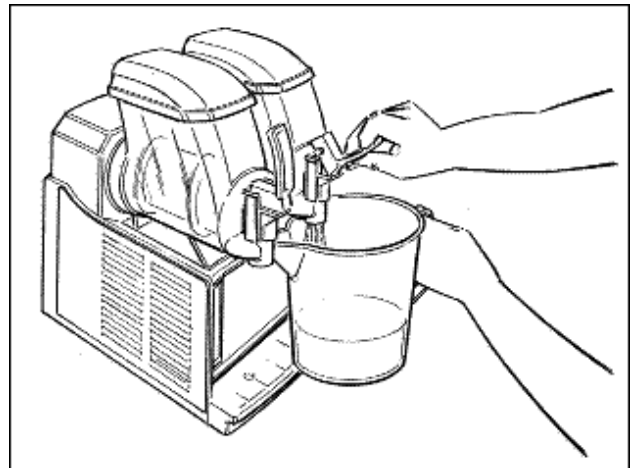

Fig. 33
- Empty the bowl and repeat the same operations until the coming out water is clear (Fig. 33).